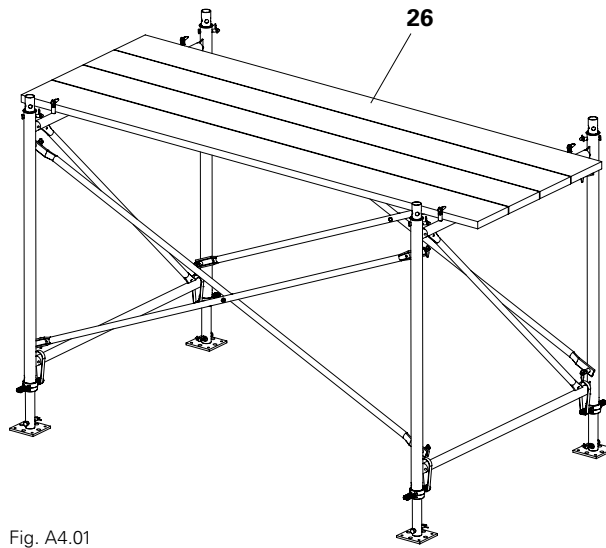

Fig. A4.01
1. Lay the planking (26) down and secure it to prevent it from slipping or being lifted. (Fig. A4.01)